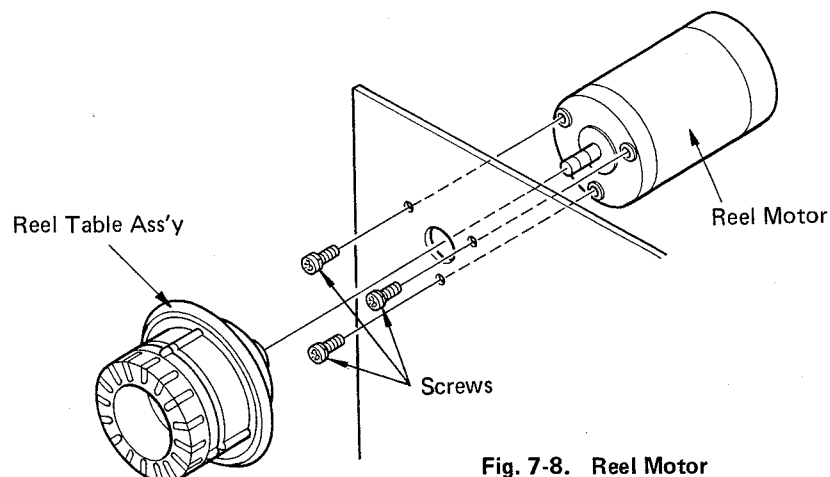

Fig. 7-8. Reel Motor
2. Remove the reel table assembly and as shown in Fig. 7-8, remove the three screws holding the reel motor.